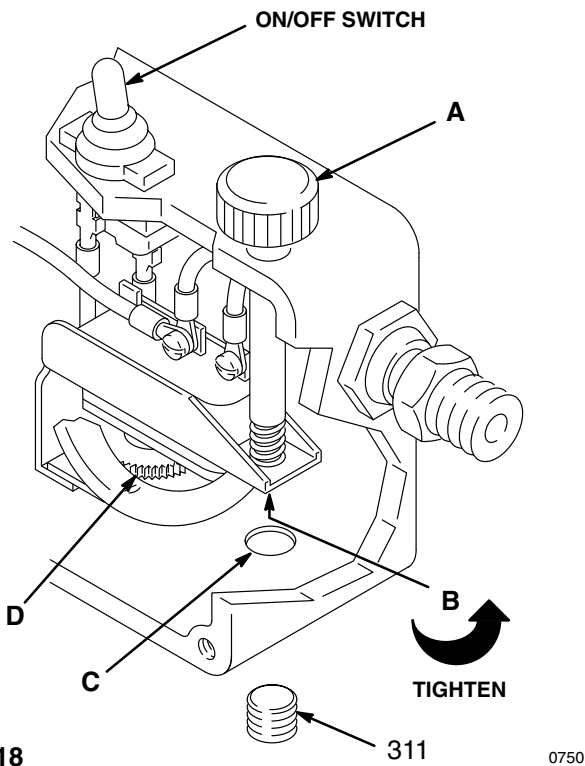

Fig 18 311 0750
NOTE: Refer to Fig 18 for the remainder of this procedure.
3. Remove the plug (311). See Fig 18.
4. Open the needle valve slightly. Turn the pressure adjusting knob (A) to the minimum setting.